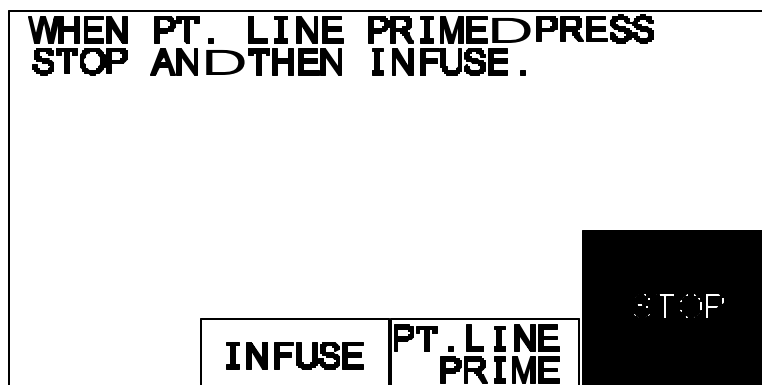

Figure 6. Patient Line Prime
4. Press INFUSE to go to the Infuse screen and start infusing at 10 ml/min. Figure 6.